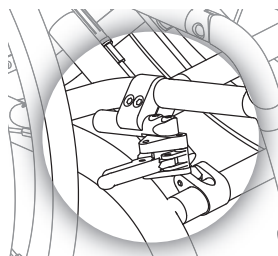

Figure 19.17 Scissor-style wheel locks.
- 1 To engage the scissor-style wheel locks in Figure 19.17, pull the lever toward the wheel until it locks into place.